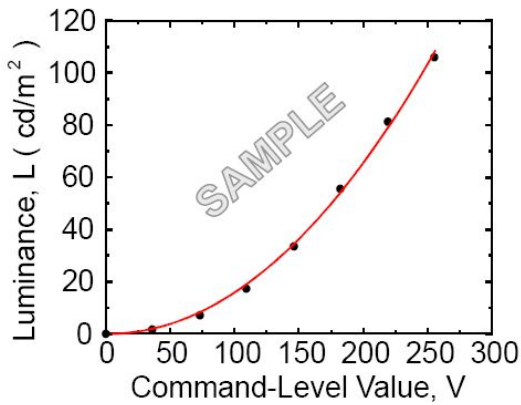
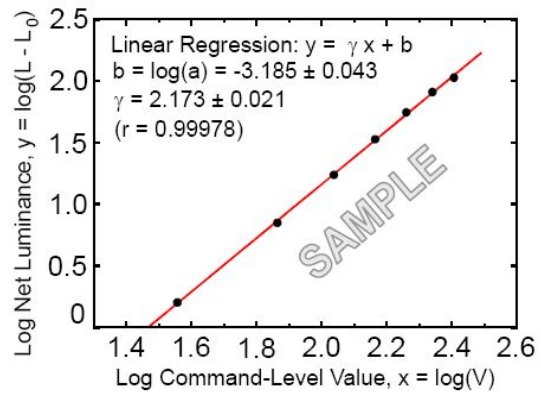

FIG. 5 Sample Luminance vs. gray scale (using a 256 bit gray scale)
FIG. 6 Sample Log-log plot of luminance vs. gray scale
[Figure 6] Power sequence
7. GSR is the rate of gamma shift at up, down, left and right 60 degree viewing angle compare with center gamma. For more information see FIG 5 and FIG 6 **(By EZ Contrast)**
The GAMMA we calculate from the log-log representation (FIG. 6)